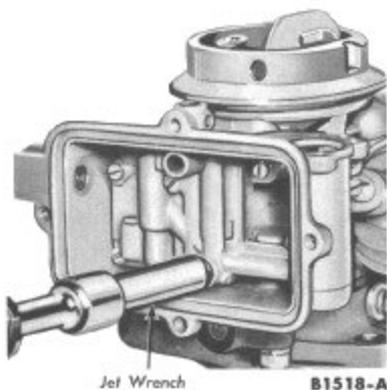

FIG. 22—Jet Removal or Installation
8. Using a jet wrench, remove the main jet (Fig. 22). Remove the main well.